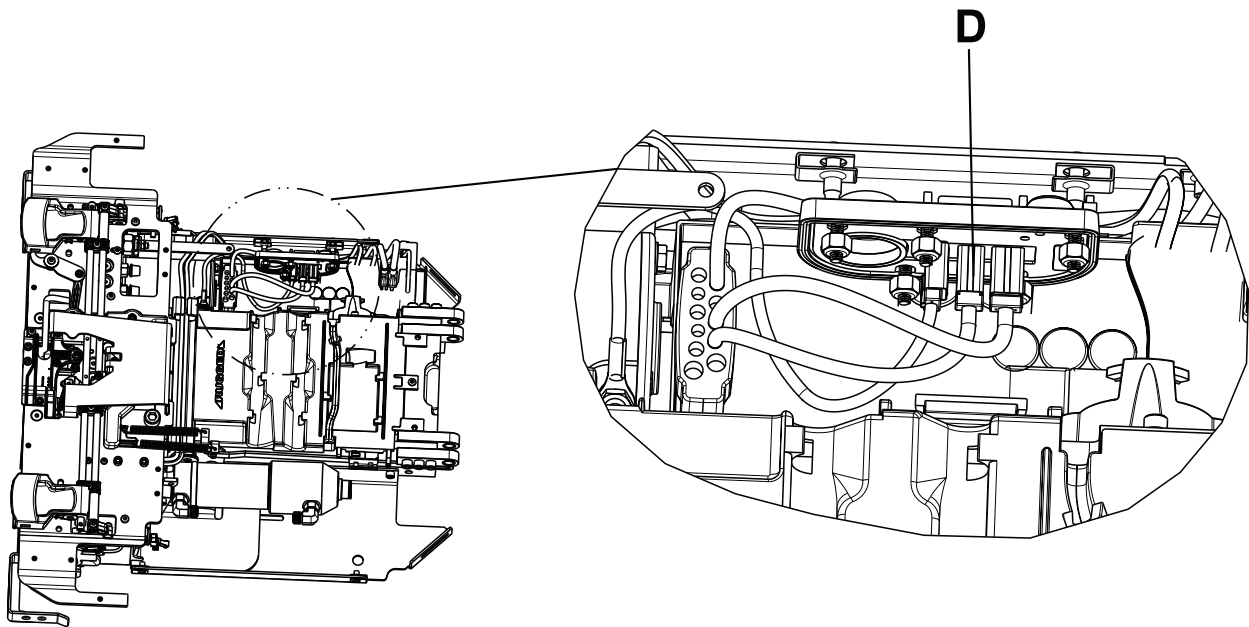

Figure 16 – On/Off switch cable locations
7. Unplug the cables from the master On/Off switch (D) and remove the manual release button assembly (Figure 16).